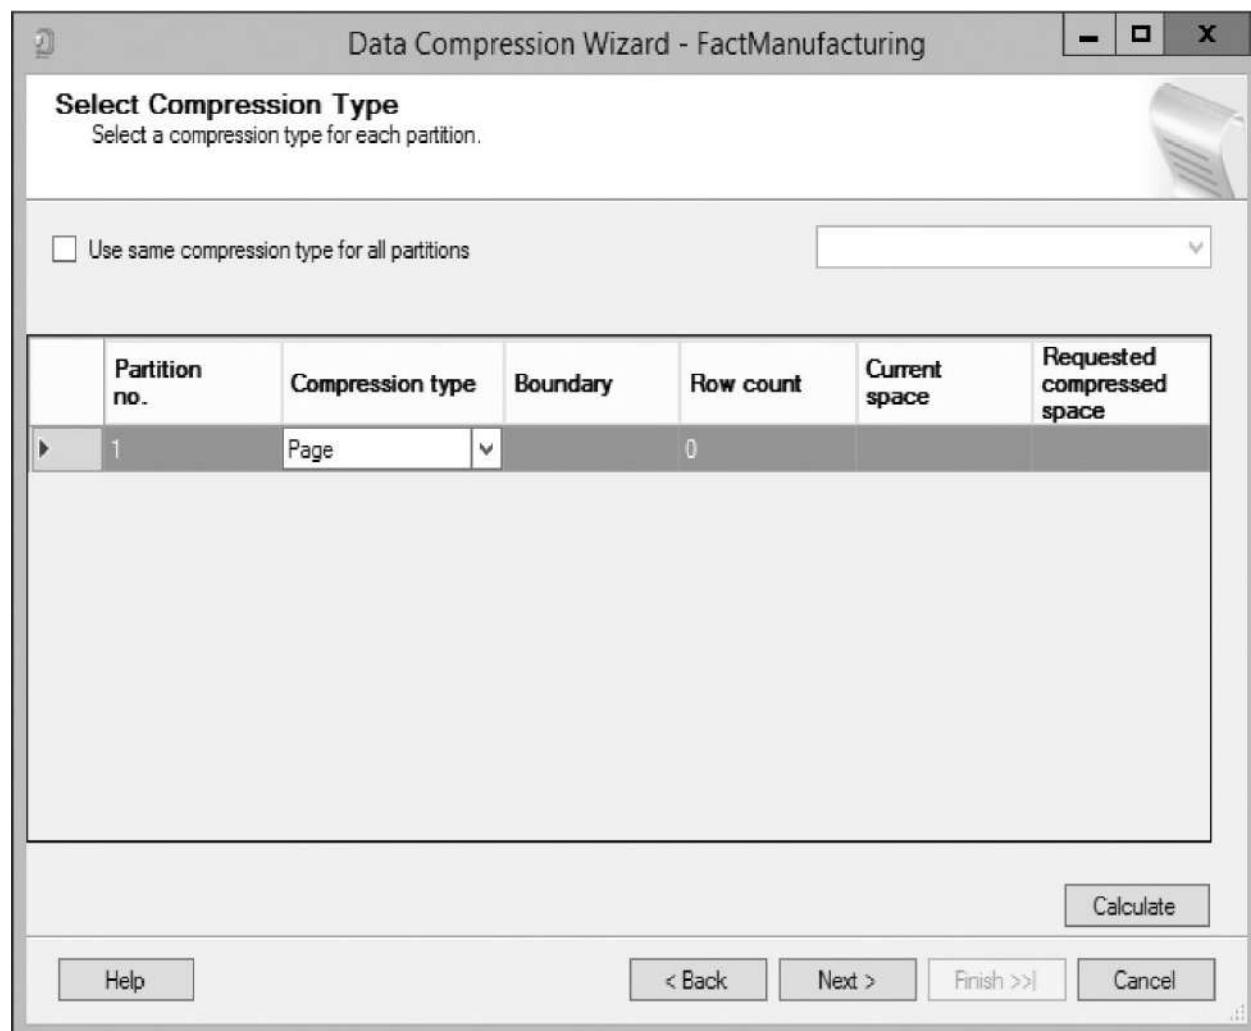

Figure 6-36 The Select Compression Type page of the Data Compression Wizard
5. From the Compression type drop-down list, select Page. The Select Compression Type page will appear as shown in Figure 6-36.